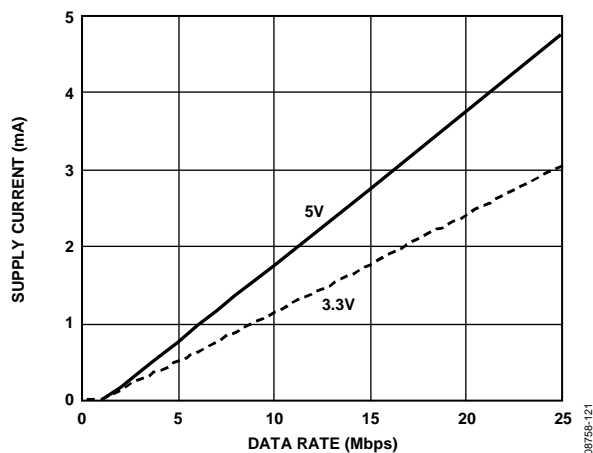
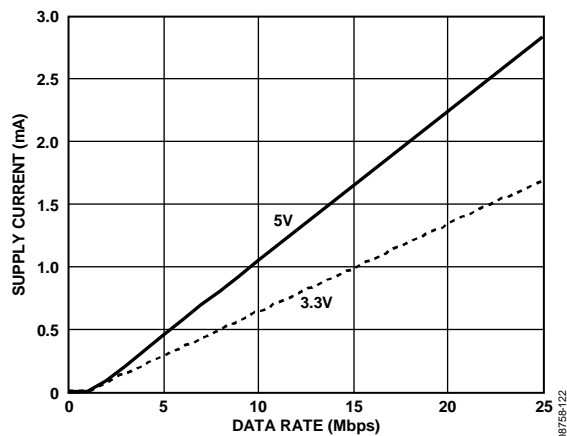

Figure 21. Typical $I_{ISO(D)}$ Dynamic Supply Current per Input
Figure 22. Typical $I_{ISO(D)}$ Dynamic Supply Current per Output (15 pF Output Load)
$I_{ISO (D)n}$ is the dynamic load current drawn from V_{ISO} by an input or output channel, as shown in Figure 21 and Figure 22.